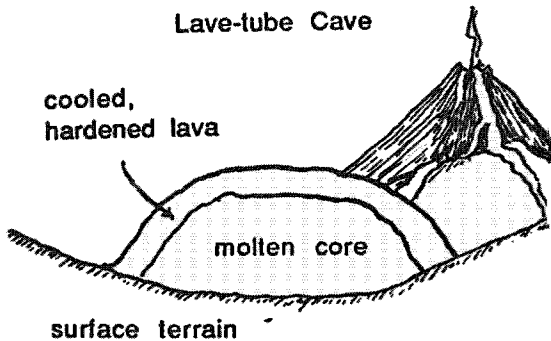

Figure 3.
- Lava tubes (Figure 3, facing page.)